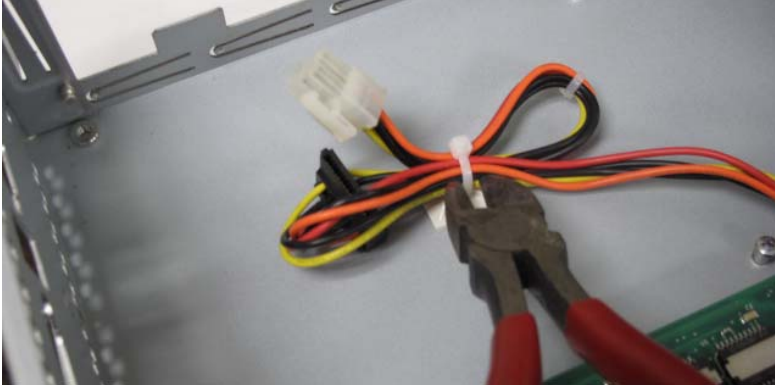

Figure 66: Clipping tie-wrap
2. Using diagonal cutters, clip the tie-wrap holding the power cables to the tie-wrap base. Take care to avoid cutting the cables; see Figure 66. (Note: Location of tie-wrap base may vary on your controller.)